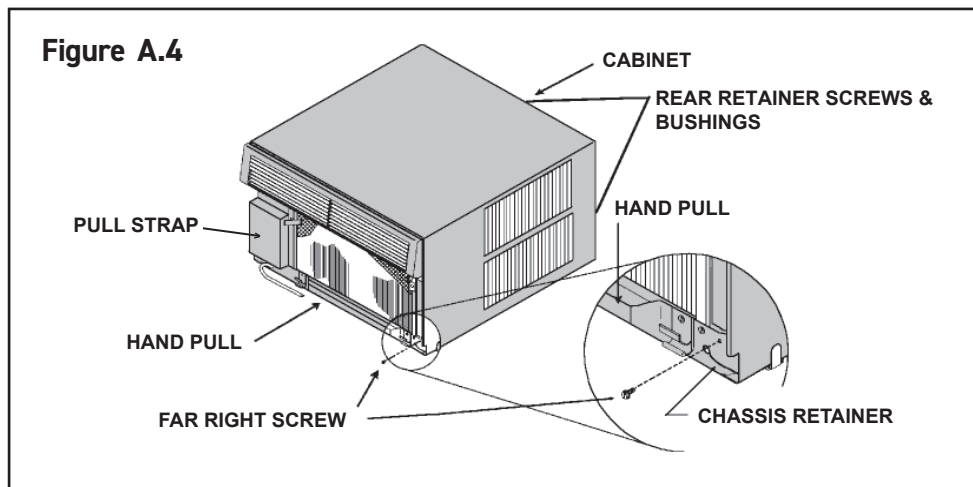

Figure A.4.1
STEP 4 While an assistant holds the cabinet stationary, use the hand pull at the front of the base pan (see Figure A.4.1) to pull the chassis out of the cabinet.